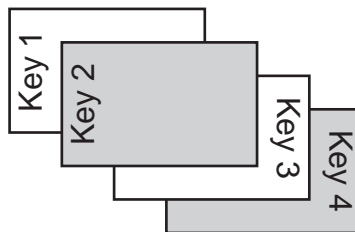

Figure 5.29 New Keyer Priority
4. Both **Key 1** and **Key 4** remain in their original order, with **Key 4** on top of **Key 1** (**Figure 5.29**).